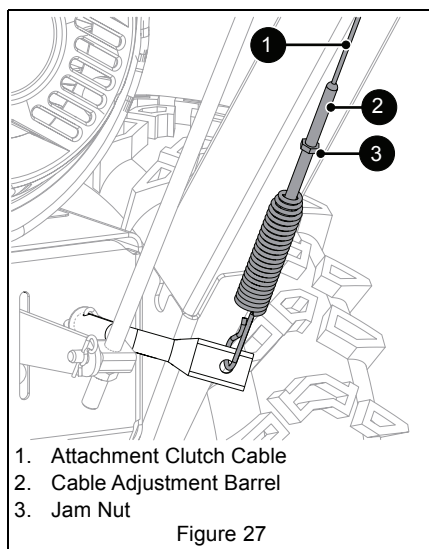

Figure 27
4. Loosen jam nut on cable adjustment barrel, and then turn the adjustment barrel down to shorten cable and remove cable slack. See Figure 27.
6. Tighten jam nut on cable adjustment barrel. See Figure 27.